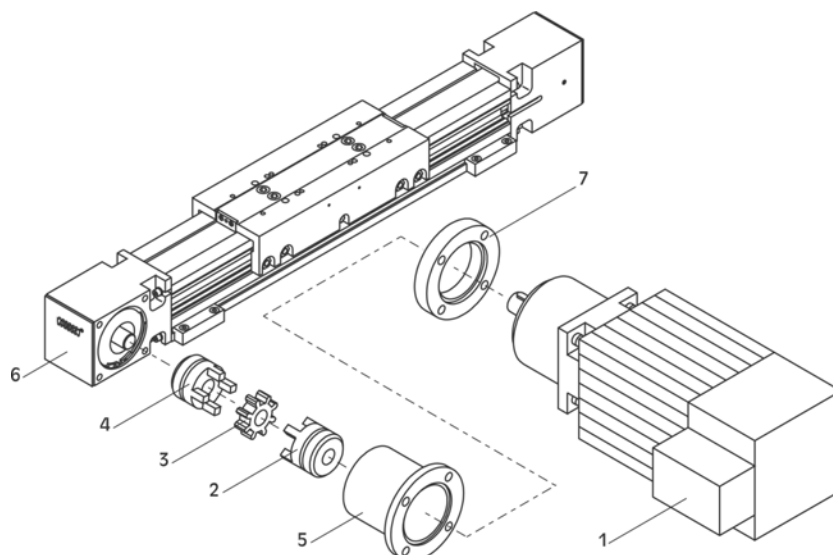

Fig. 6: Drive motor WIESEL SPEEDLine®
1. **Fig. 6 and 7:** Place the motor (1) in mounting position beside the linear drive unit.
3. Attach the coupling half (4) to the shaft of the linear drive unit (see chapter 10.1 "Fastening torques").
4. Attach the motor adapter flange (5) to the fixed bearing housing (6) with four screws.
5. Push the toothed wheel (3) onto the coupling half on the linear drive unit.
6. Mount the second coupling half (2) on the drive shaft of the motor (see chapter 10.1 "Fastening torques").
7. Attach the motor with the coupling half to the motor adapter flange (5) with four screws. Ensure that no axial pressure is exerted on the motor shaft.